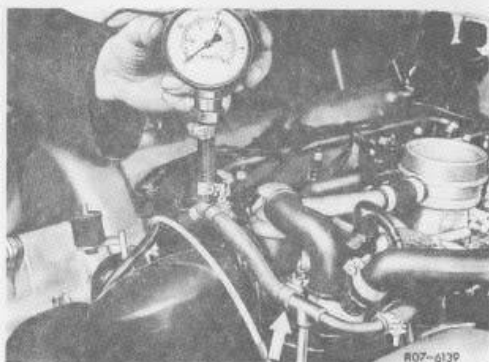
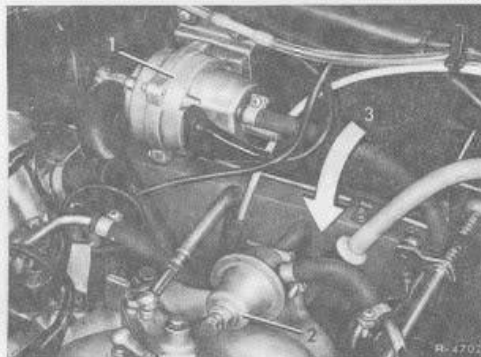

FIG. 25
FIG. 26 2 PRESSURE REGULATOR
4. Aside from the regular scheduled maintenance items, it may become necessary to check and adjust the fuel pressure. For this purpose, a pressure gauge is connected to the fuel loop (Fig. 25). Should the value be other than 28.4 psi, it can be corrected by adjusting the pressure regulator (Fig. 26).
5. Should the test procedure reveal that the throttle valve switch (Fig. 26) needs adjustment, it must be performed with utmost care. For easier accessibility, it is advantageous to remove the throttle valve (item 1).